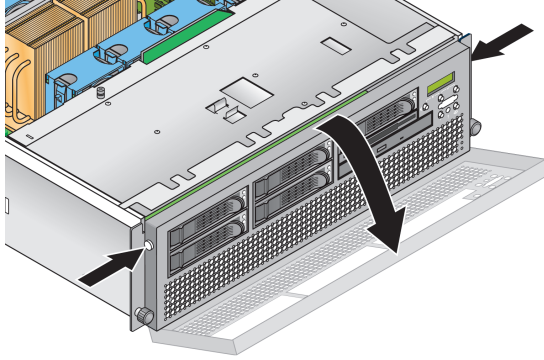

FIGURE 12 Removing the Front Bezel
1. Remove the front bezel from the server by pressing in on the rubberized buttons on each side of the bezel, then swinging the bezel top downward (see FIGURE 12).